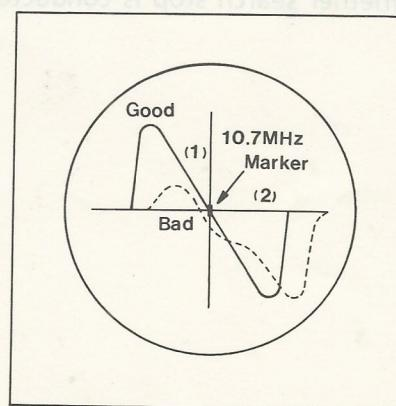

Fig. 9
- (e) Align F621 to have the waveform shown on the oscilloscope be the same as that shown in Fig. 9.